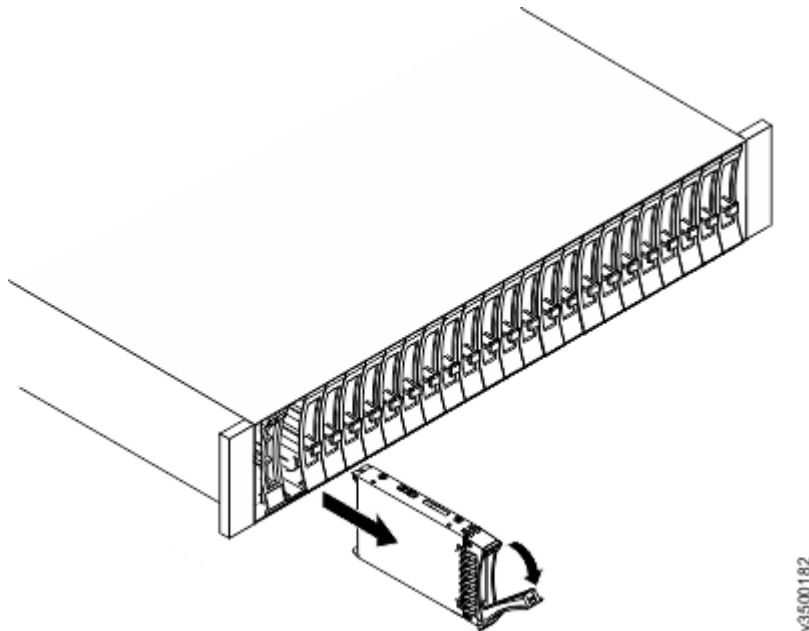
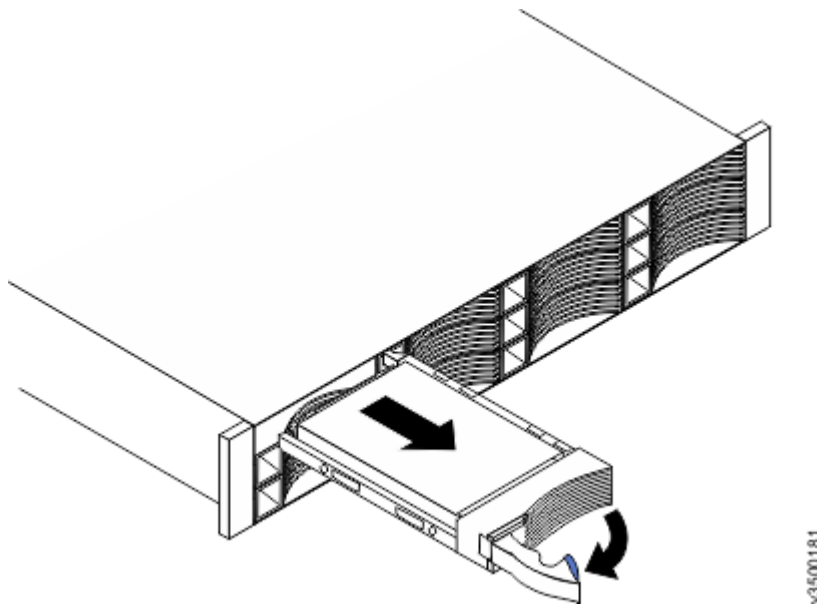

Figure 118. Removing a vertical style hard disk drive
Figure 119. Removing a horizontal style hard disk drive
6. Carefully remove each hard disk drive and label it with the drive slot from which it was removed (so that the drives can be inserted back into the same slots). Refer to Figure 118 on page 184 or Figure 119 on page 185.